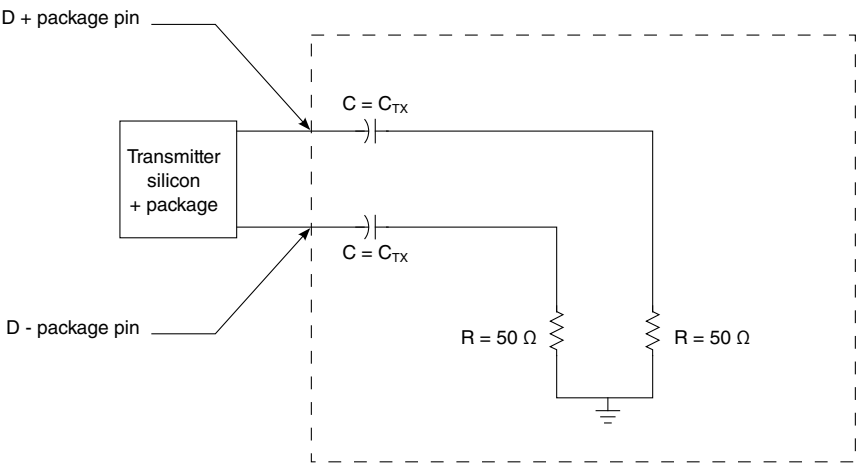

Figure 76. Test/measurement load
1. Specified at the measurement point into a timing and voltage test load as shown in Figure 76 and measured over any 250 consecutive transmitter UIs.
<p>1. Specified at the measurement point and measured over any 250 consecutive UIs. The test load in Figure 76 must be used as the receiver device when taking measurements. If the clocks to the receiver and transmitter are not derived from the same reference clock, the transmitter UI recovered from 3500 consecutive UI must be used as a reference for the eye diagram.</p> <p>2. A $T_{RX-EYE} = 0.40$ UI provides for a total sum of 0.60 UI deterministic and random jitter budget for the transmitter and interconnect collected any 250 consecutive UIs. The TRX-EYE-MEDIAN-to-MAX-JITTER specification ensures a jitter distribution in which the median and the maximum deviation from the median is less than half of the total. UI jitter budget collected over any 250 consecutive transmitter UIs. It must be noted that the median is not the same as the mean. The jitter median describes the point in time where the number of jitter points on either side is approximately equal as opposed to the averaged time value. If the clocks to the receiver and transmitter are not derived from the same reference clock, the transmitter UI recovered from 3500 consecutive UI must be used as the reference for the eye diagram.</p> <p>3. It is recommended that the recovered transmitter UI is calculated using all edges in the 3500 consecutive UI interval with a fit algorithm using a minimization merit function. Least squares and median deviation fits have worked well with experimental and simulated data.</p> <p>4. For recommended operating conditions, see Table 3.</p>